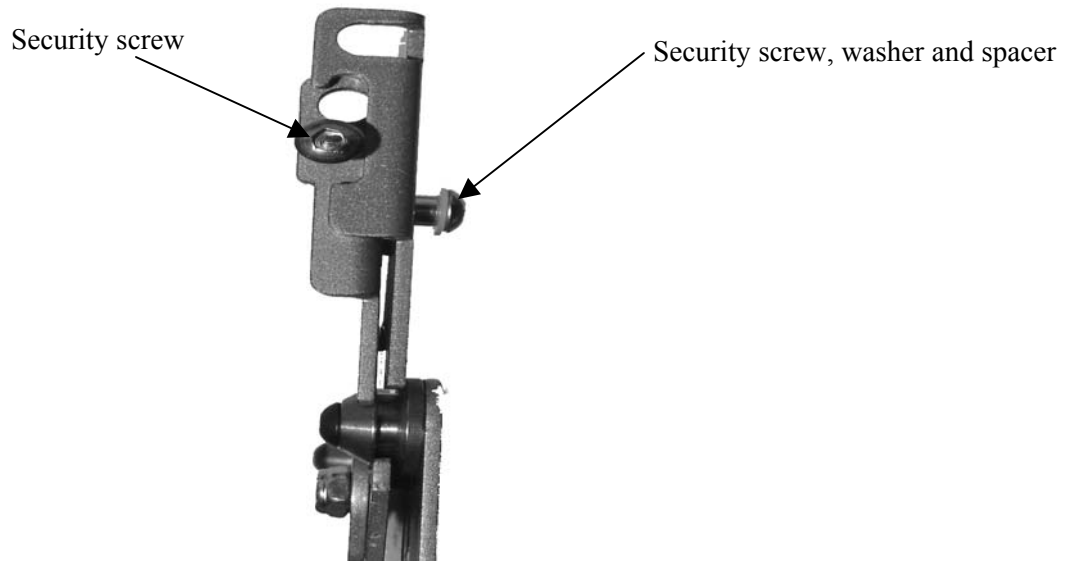

Figure 3
3. Secure bracket on latching flag using screw, washer and spacer assembled in step 2 and second 10-24 x .375 button head security screw as shown in Figure 3.